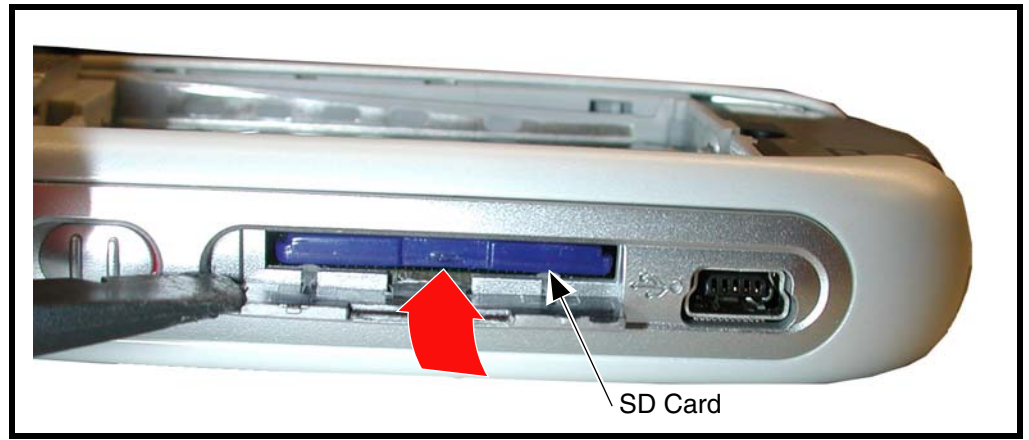

Figure 6. Unlocking the SD Card
3. If an SD card is present, first, push the SD Card inward to unlock it (see Figure 6),
4. Pull the SD card out of the phone (see Figure 6).